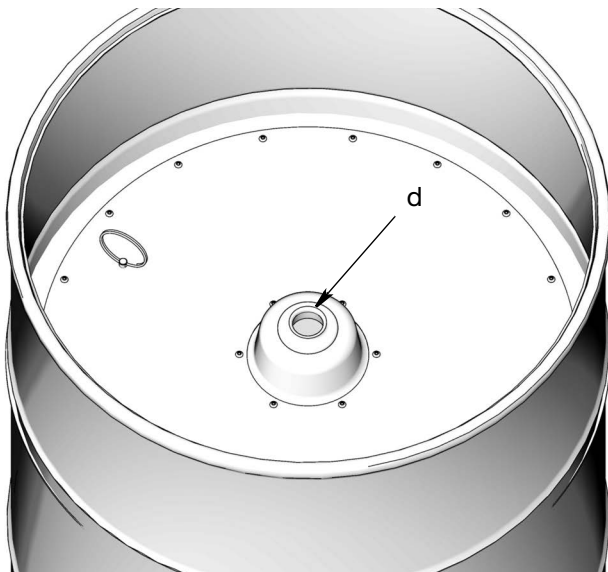

FIG. 8
- 6. Set follow plate on top of fresh grease (FIG. 8). Remove air by pushing on the follow plate until the